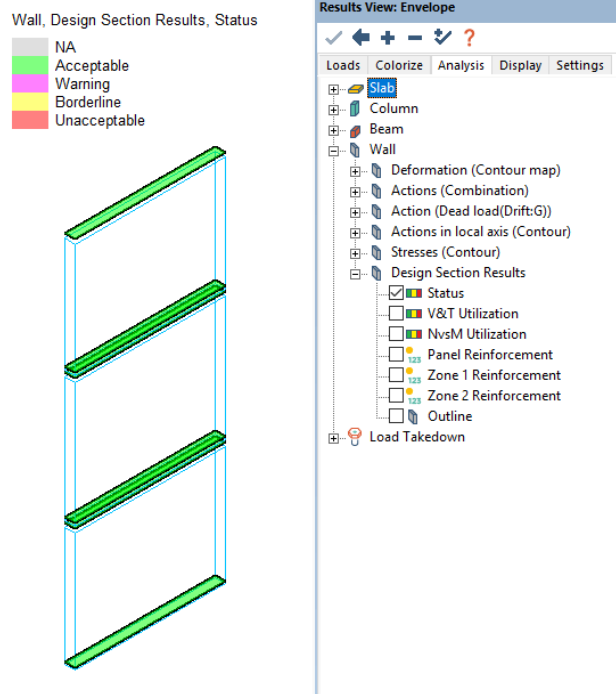

Figure 17-8
- In the *Results Browser*, go to the *Analysis* tab and select *Wall – Design Section Results – Status*. **FIGURE 17-8**. The design sections for P1 are shown as *Acceptable*. The overall status check shows *NG* because all design sections generated have not yet been designed for this example. Other graphical checks are shown in the *Design Section Results* branch.